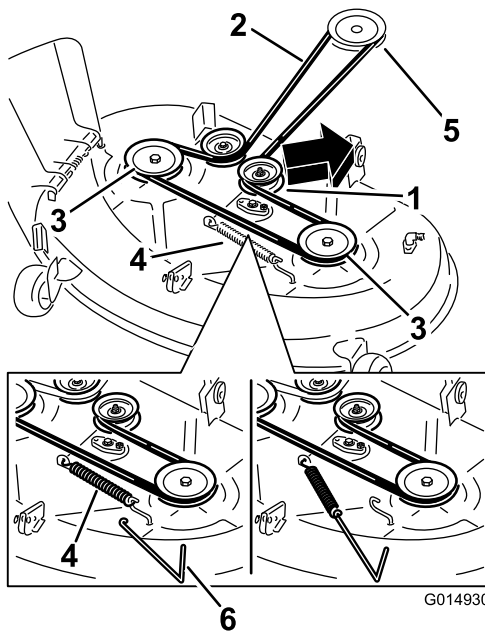
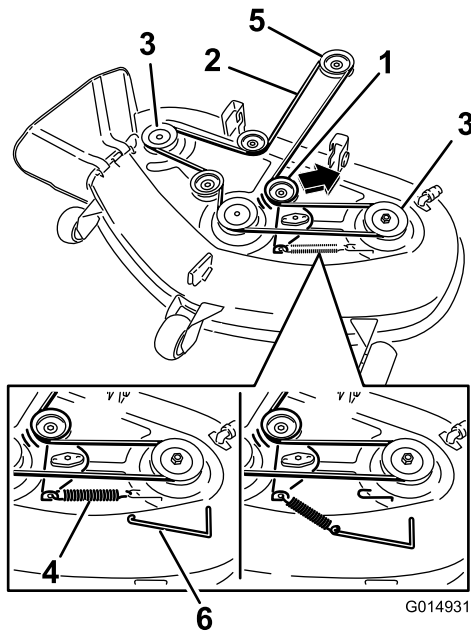

Figure 61
Figure 62
4. Using a spring removal tool, (Toro part no. 92-5771), remove the idler spring from the deck hook to remove tension on the idler pulley and roll the belt off of the pulleys (Figure 61 and Figure 62).
placing tension on the idler pulley and mower belt ((Figure 61 and Figure 62)).
5. Route the new belt around the engine pulley and mower pulleys (Figure 62).